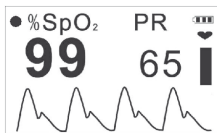

Figure 9B “Display Always On” is enabled
- Long press “▲” key: choose display always on or not which will be effective during measurement. If you choose display always on, the icon (“●”) for “display always on” will appear on the screen as shown in Figure 9B.